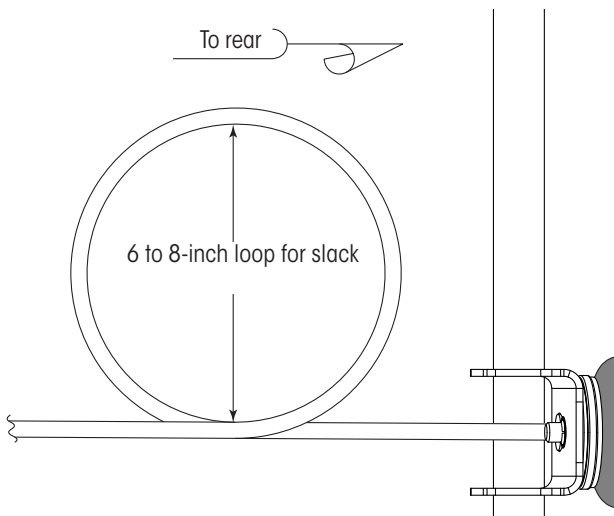

Figure 76: Creating a slack loop in the air line (Applies to K-2® Slider Box SURELOK kits with air spring actuator)
1. (Applies to K-2® slider box only, Figure 76) **Make** a six to eight inch slack loop in the air line near the front of the actuator.